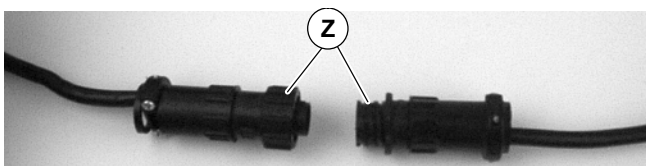

Figure 16
3. For DC variable speed motor, unplug motor cord at disconnect (Z of Figure 16).